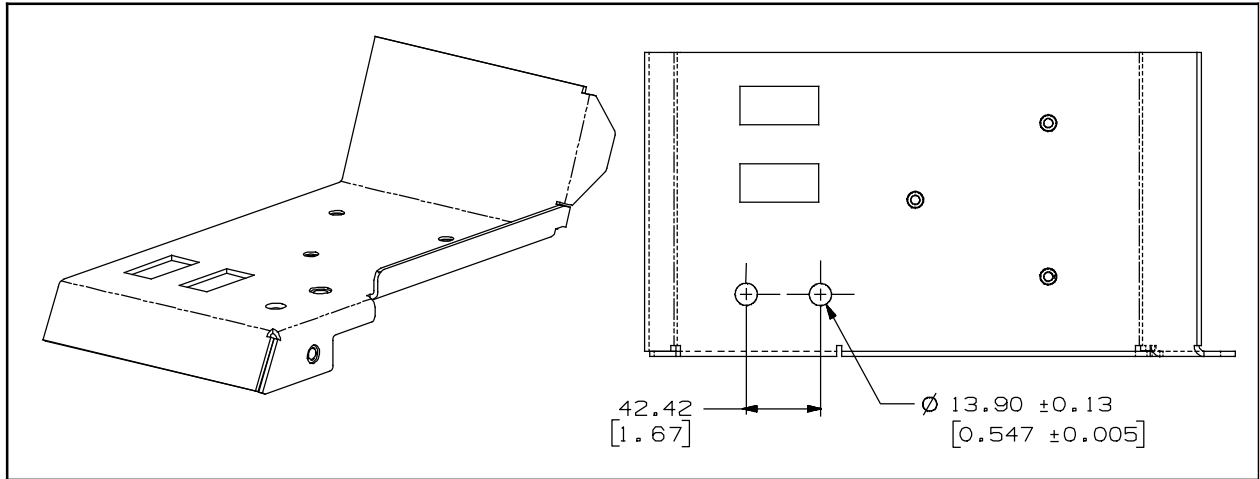

FIG. 4
2. Drill a 0.547 in. (13.90 mm) hole into the pocket panel. (Fig. 4)